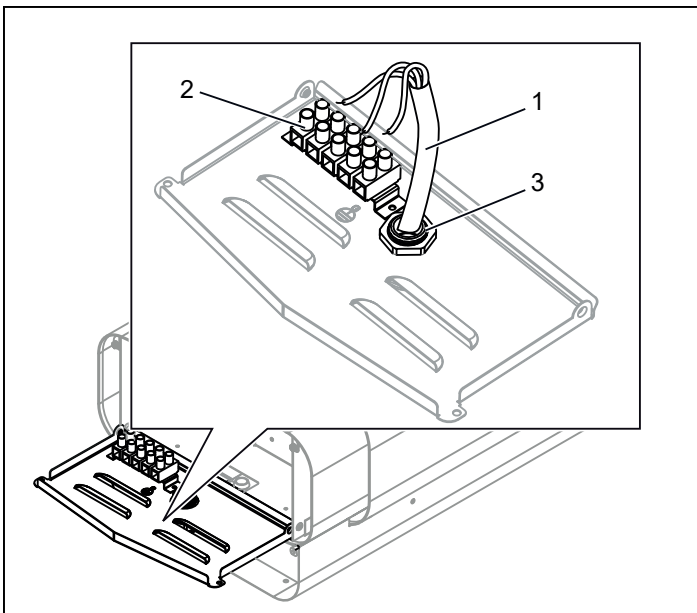

Figure 6: Connection
3. Attach strain relief devices (3) and connect the electrical cable (1) to the terminal (2) (see Figure 6) according to the wiring diagram (see the Connection/wiring diagram section, fig 19).